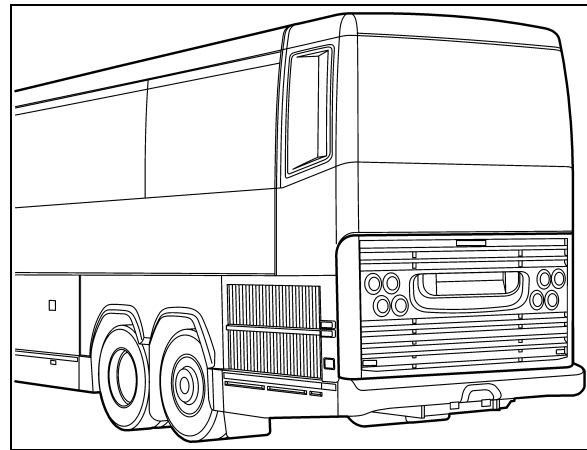

FIGURE 19: ENGINE COMPARTMENT DOOR
2. Open engine compartment door (Figure 19).